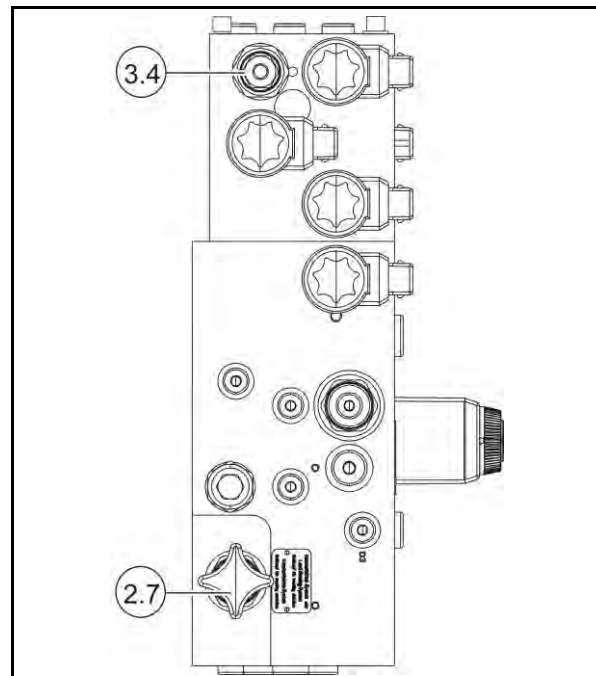

Fig. 37
- 2.1 screw the load-sensing screw (Fig. 37/2.7) in as far as it will go.
3. Connect the load-sensing control line (2) to the load-sensing connector of the tractor.
4. Connect the hydraulic connector "Return line" (4) to a free return port of the tractor.
5. Connect the hydraulic connector "Flow line" (5) directly to the hydraulic pump of the tractor.